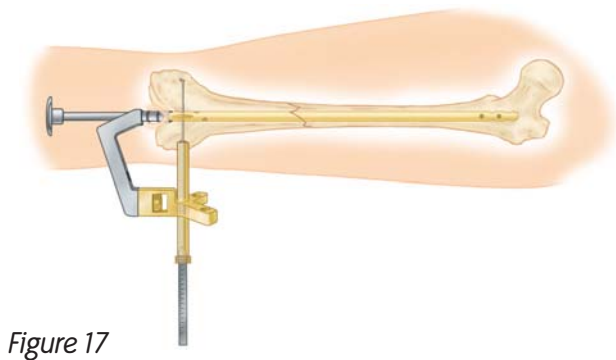
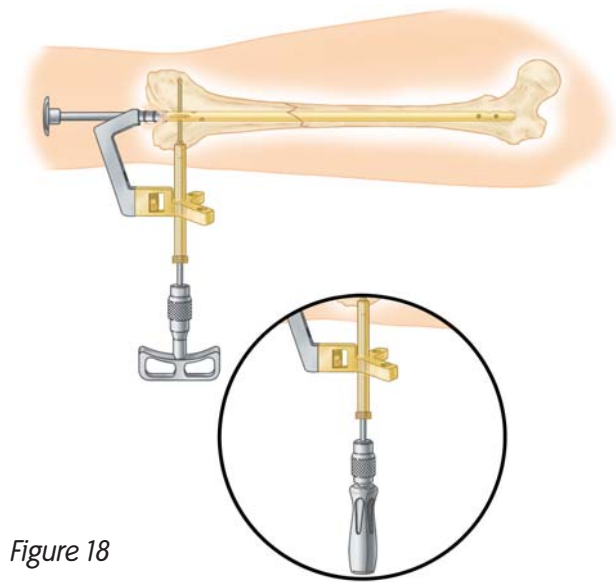

Figure 17
Figure 18
B. Screw Length Gauge Technique— After pre-drilling through both cortices as outlined above, remove the Silver Inner Drill Sleeve, leaving the Gold Outer sleeve in place. Use the Screw Length Gauge (7163-1170) through the Gold Outer Drill Sleeve (7163-1152) from the far cortex to measure for proper 5.0 mm screw (GOLD) length (Figure 17). An alternative option in measuring for screw length is the Direct Measuring Gauge (7163-1189.) The appropriate length 5.0 mm screw (GOLD) is selected and attached to the Medium (7163-1166) or Long (7163-1164) Screwdriver. Attach Screwdriver to power or use manual T-handle (7163-1172) or Straight Screwdriver Handle (7163-1163) and place screws in bone. The Screwdriver contains a laser-marked ring. This ring should be stopped short of the Gold Outer Drill Sleeve to prevent final seating of the screw by power. It is recommended that final tightening of the 5.0 mm screw should always be under manual control using the T-Handle (7163-1172) or Straight Screwdriver Handle (7163-1163) (Figure 18).